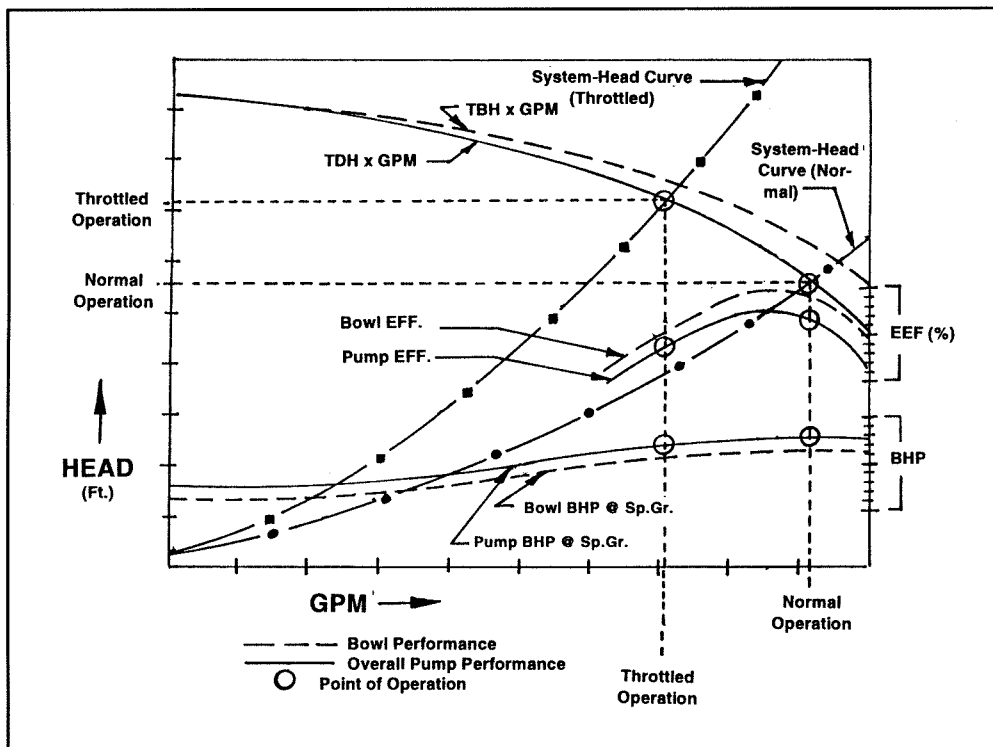

Figure 1. Typical bowl and pump performance with hypothetical system-head curve intersections (normal and throttled).
- 1.) **Pump Performance Curve**—provided by manufacturer to detail performance of bowl assembly (pump), via test lab data, and that of the complete pump installation particular to a given well (setting depth, temperature, etc.). See Figure 1.
- 1.) The above is true even for a worn pump and also is true if the pump is throttled. (Throttling does not change the pump curve, it changes the system-head curve). See Figures 1 and 3.